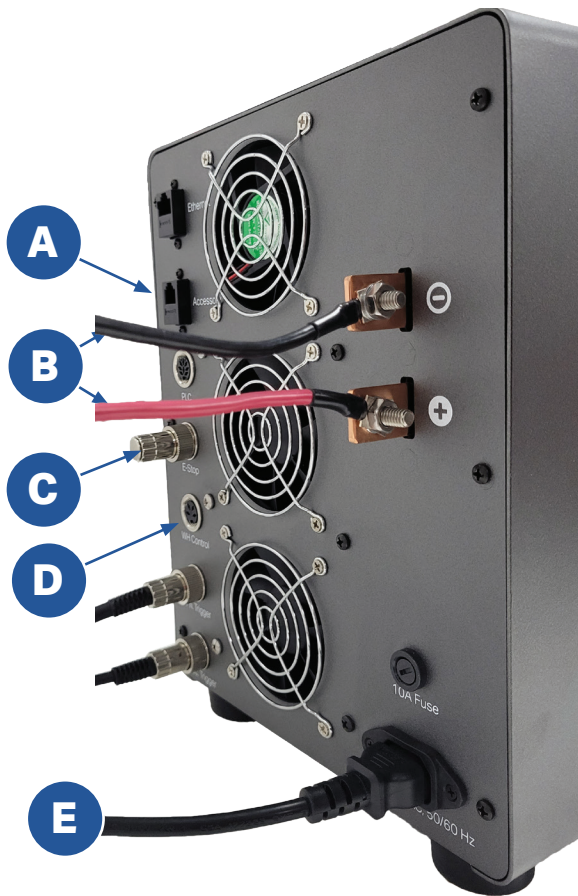

Figure 10.1. Unbox the Pico and make sure these basic connections are completed: Power (E), weld cables (B), E-Stop (C), and Accessory Port (A).
- Connect the E-Stop Bypass Plug or an E-Stop switch into the E-Stop Port on the back of the welder. See (C) in Figure 10.1.
- Connect the female end of the power cord into the Pico's Power Inlet and connect the male end into an AC power outlet (90-220VAC). See (E) in Figure. 10.1.
- Connect the weld cables (B) from the weld head or hand attachment to the positive and negative weld terminals.
- If you are using the Sunstone Micro E weld head, attach one end of the CAT 5 cable to the Accessory Port (A) on the back of the Pico welder. Connect the other end of the cable to the Comm Port on the Sunstone Micro E weld head. See also the Micro E users guide.
- If you are NOT using the Sunstone Micro E weld head, connect the Weld Head Control cable to the Weld Head Control Port (D).